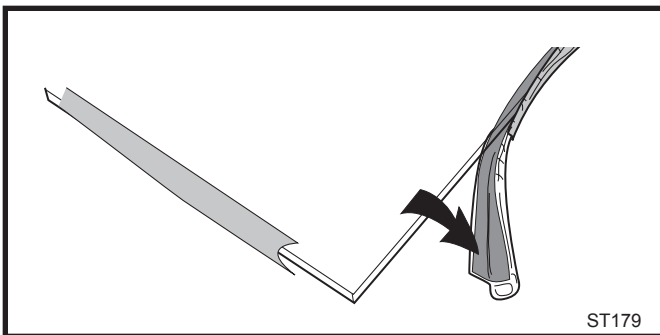

Fig. 65 Wrap the gasket material around the outside edge of the glass.
3. Starting on a long edge, remove about 6" of the protective paper strip and apply the flat adhesive face of the gasket around the outside-facing edge of the panel. Continue around the panel, applying a bout 6" at a time and being careful to not stretch the material. Do not overlap the gasket ends. (Fig. 65)